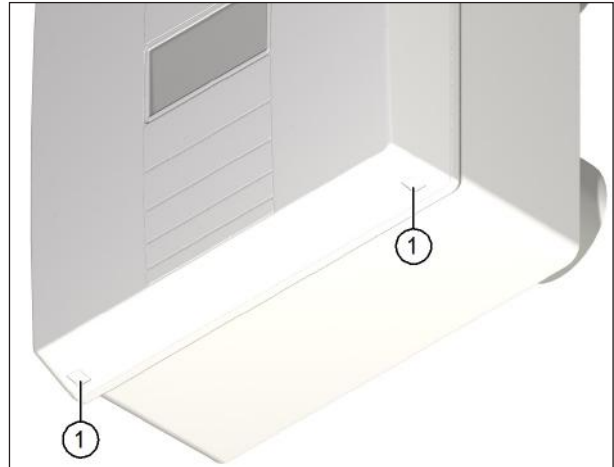

Fig. 13: Remove cover from the ventilation unit
- ▶ Using both thumbs, press the two latches (item 1 in Fig. 13) on the bottom of the ventilation unit. The cover will come away.